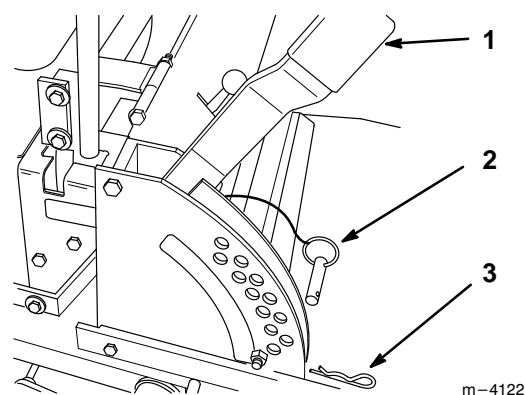

Figure 11
1. Raise the height-of-cut lever to the transport position (also the 4-1/2" (114 mm) cutting height position) (Fig. 11).
2. To adjust, remove hairpin cotter and clevis pin from height-of-cut bracket (Fig. 11).
3. Select hole in height-of-cut bracket corresponding to the height-of-cut desired. Lift handle to transport position, insert clevis pin (Fig. 11).
4. Secure clevis pin with hairpin cotter (Fig. 11).